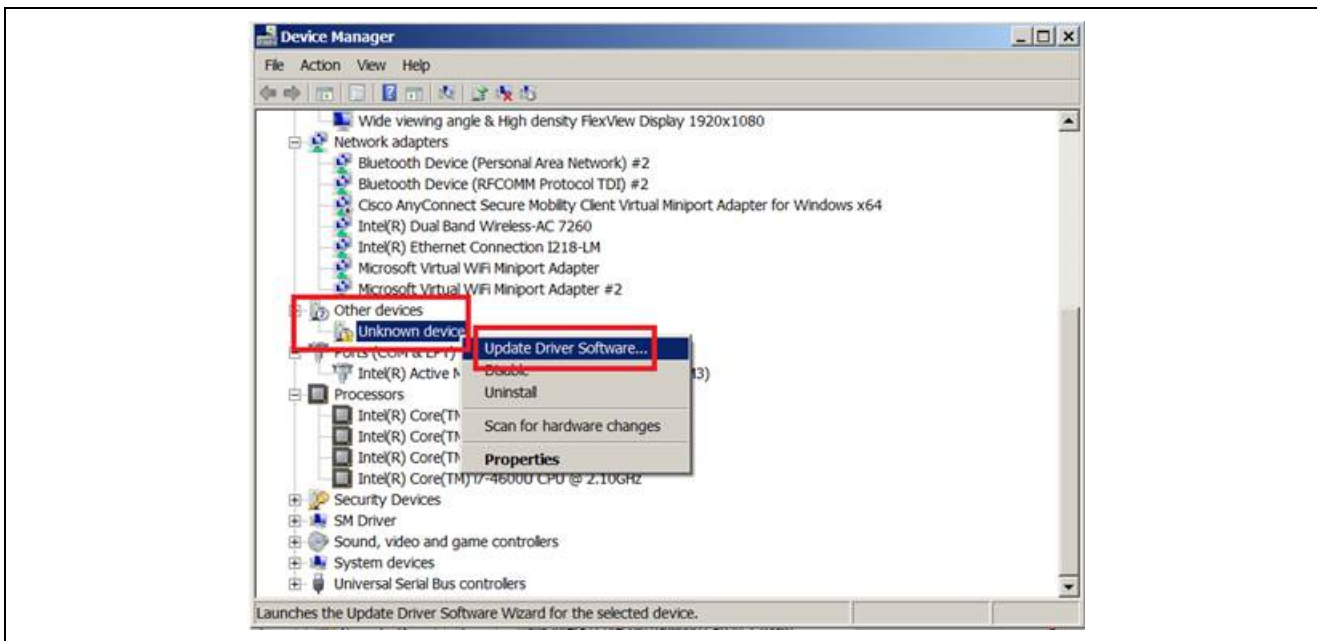

Figure 3 Device Manager in Windows 7
- Right-click the **Unknown Device** or **USB Serial COM port** and select the **Update Driver Software** option as shown in Figure 3 below.
10. Right-click the **Unknown Device** or **USB Serial COM port** and select the **Update Driver Software** option as shown in Figure 3 below.